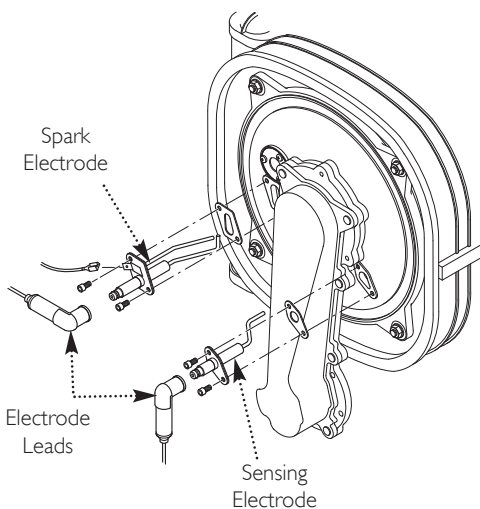

Fig. 81
14.2 Spark and Sensing Electrodes (Fig. 81)